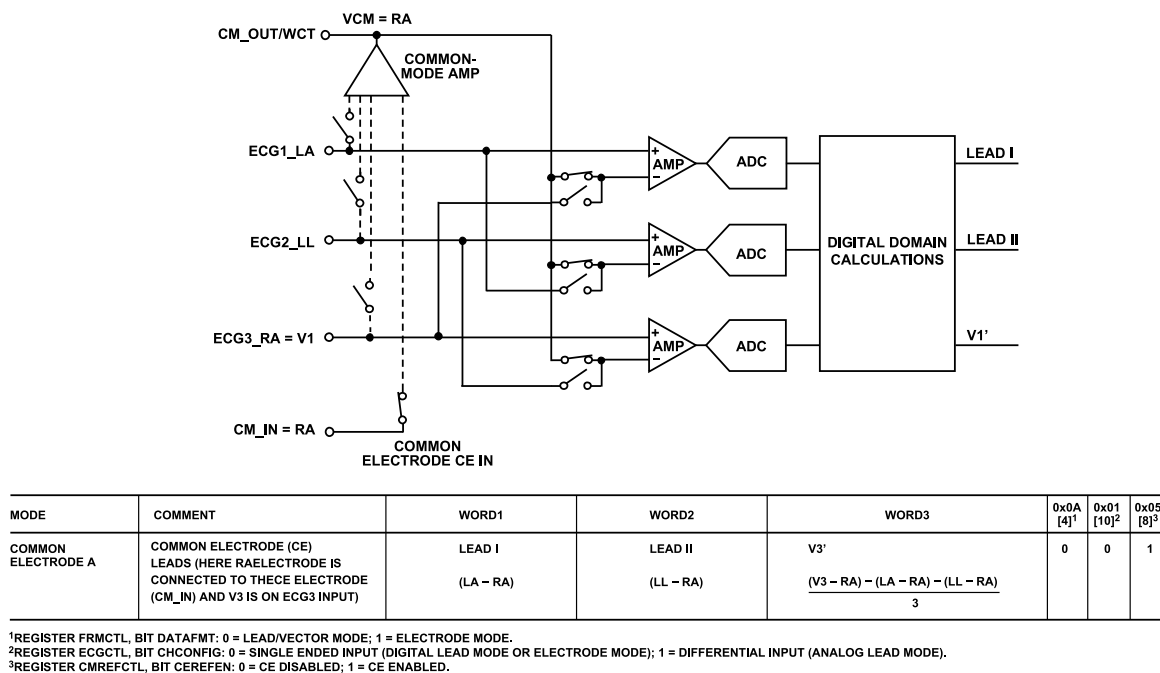
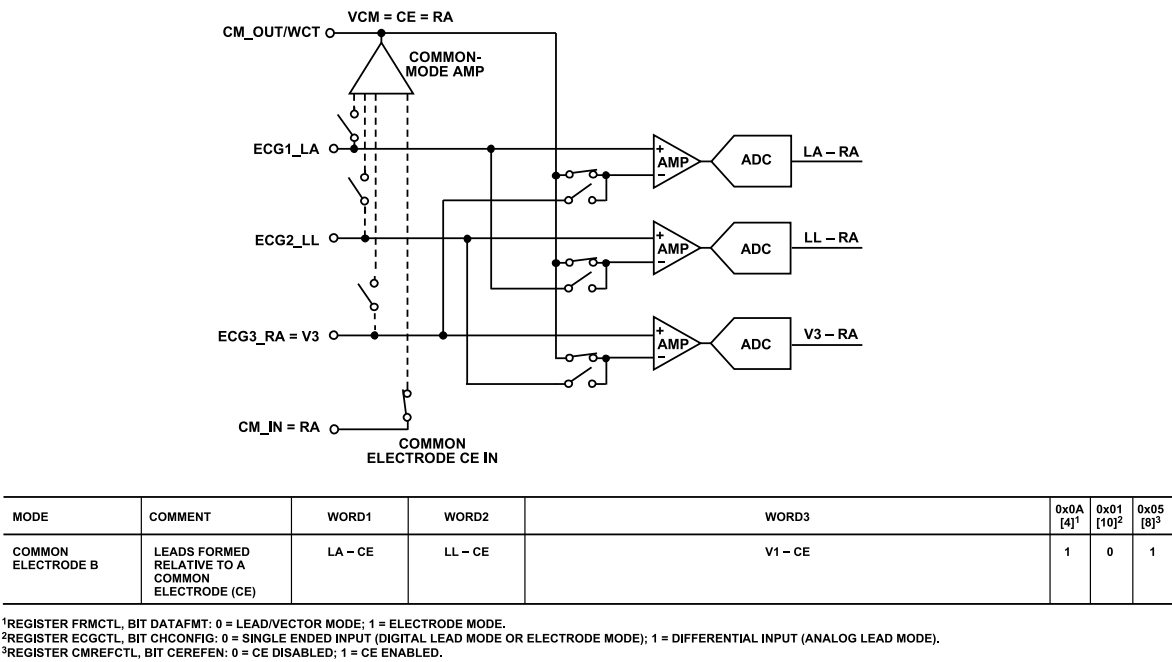

Figure 58. Electrode and Lead Configurations, Common Electrode A
Figure 60. Electrode and Lead Configurations, Common Electrode B
In this mode, all electrodes are digitized relative to a common electrode (CE), for example, RA. Standard leads must be calculated by post processing the output data of the ADAS1000/ ADAS1000-1/ ADAS1000-2 (see Figure 58 and Figure 60).